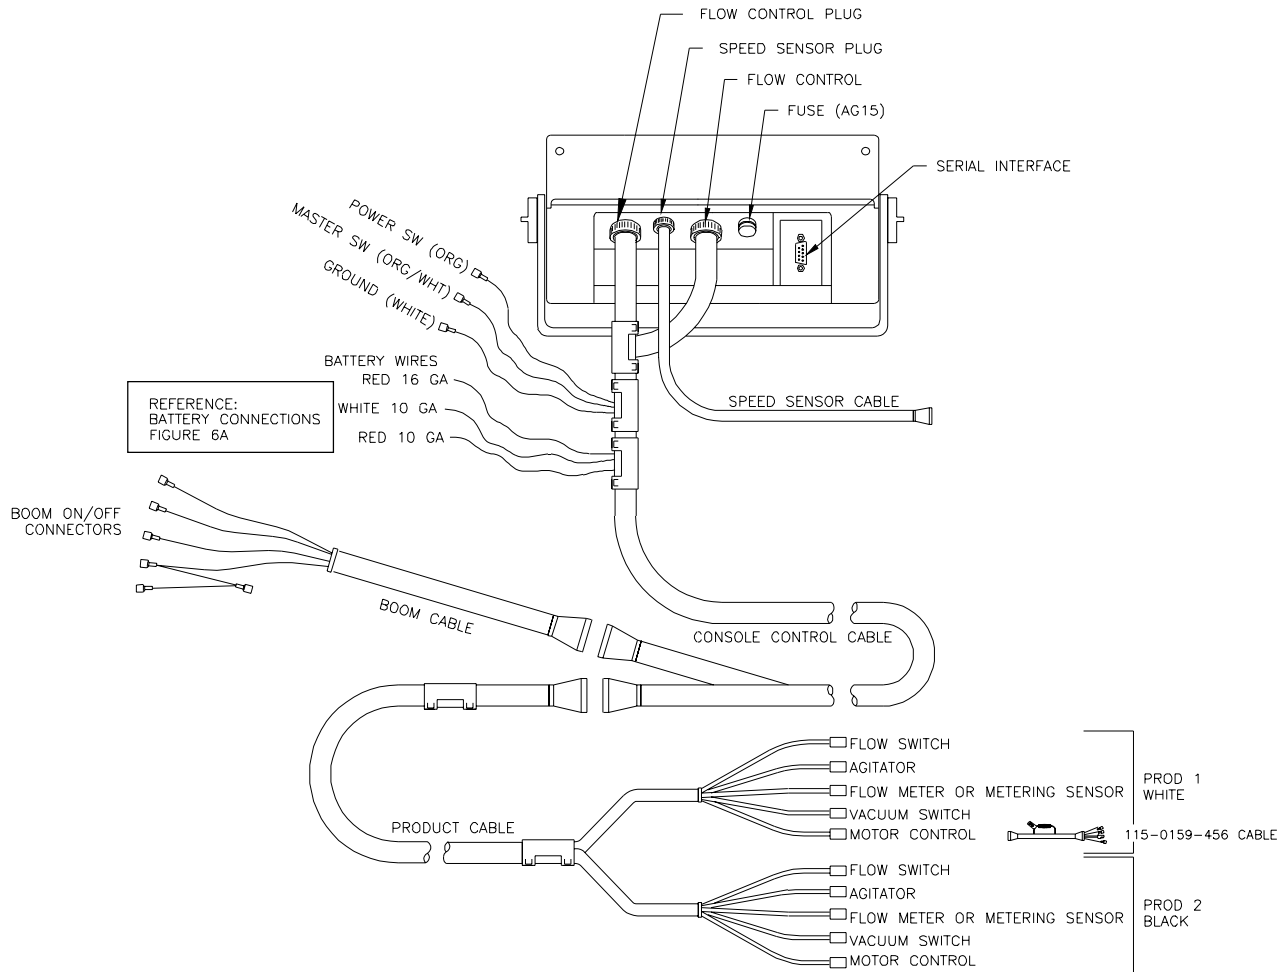

FIGURE 5
- 3) Connect the Console Control Cable to the plug in the back of the Console. (See Figure 5). Run the Console Control Cable out of the vehicle cab and connect with Product Control Cable on the sprayer. (Extension cables are available from a Raven Dealer). Secure with plastic cable ties.